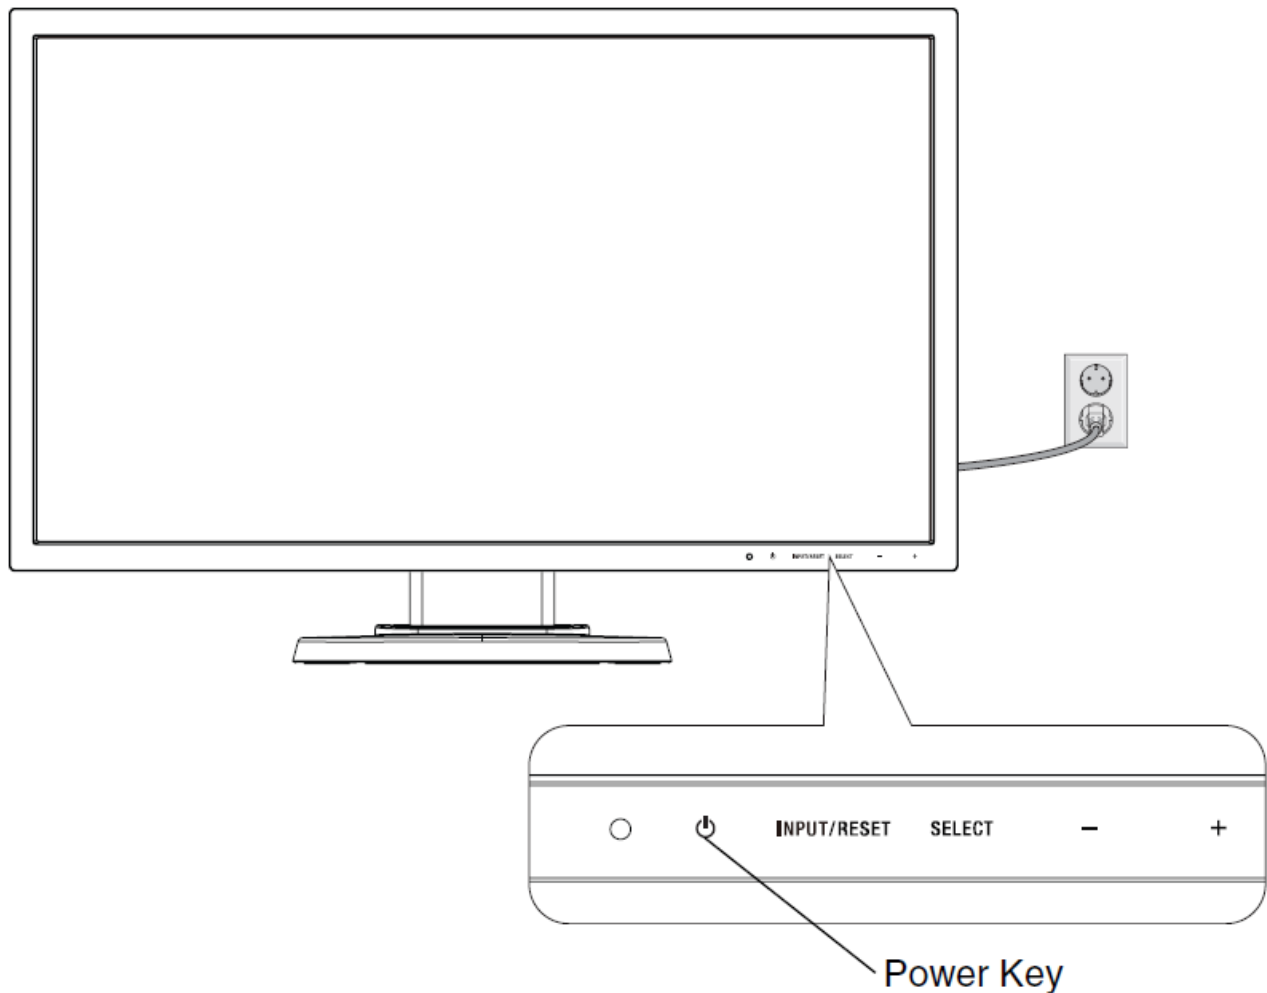

Figure E.1
8. Turn on the computer and the monitor by touching the power key on the front bezel (Figure E.1).